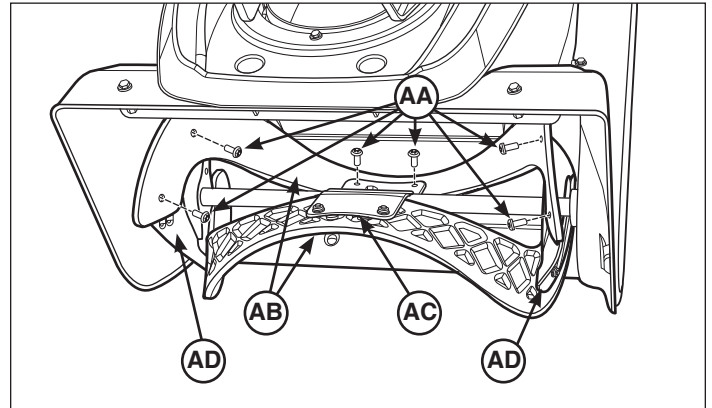

Figure 2
1. Remove the two taptite screws (**AA**, Figure 2) securing each of the existing augers (**AB**) to the top and bottom auger center plates (**AC**). Retain the top auger center plate.